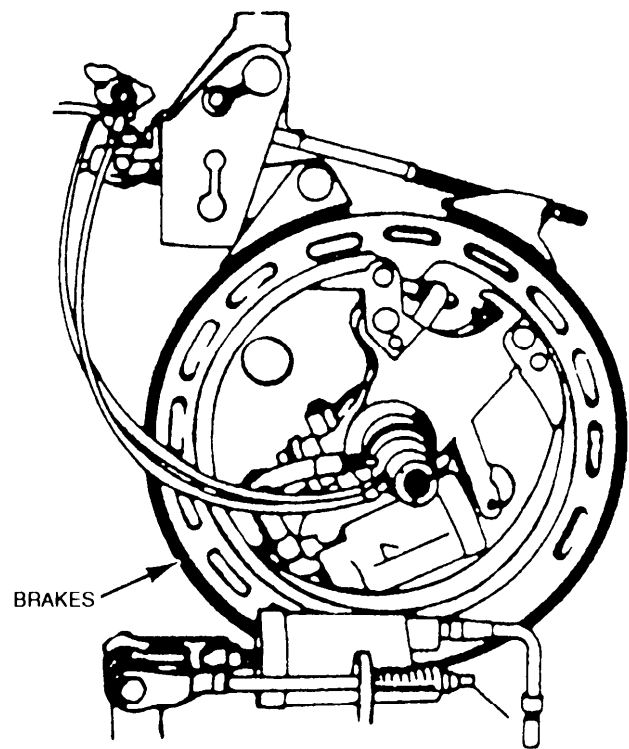

Figure 12-22.—Hoist brake assembly.
2. The left drum brake pedal is used to hold and lower loads placed on the hoist line. When locked, it prevents the hook block and wire rope from unwinding on the hoist drum. Figure 12-22 shows a typical hoist brake assembly.